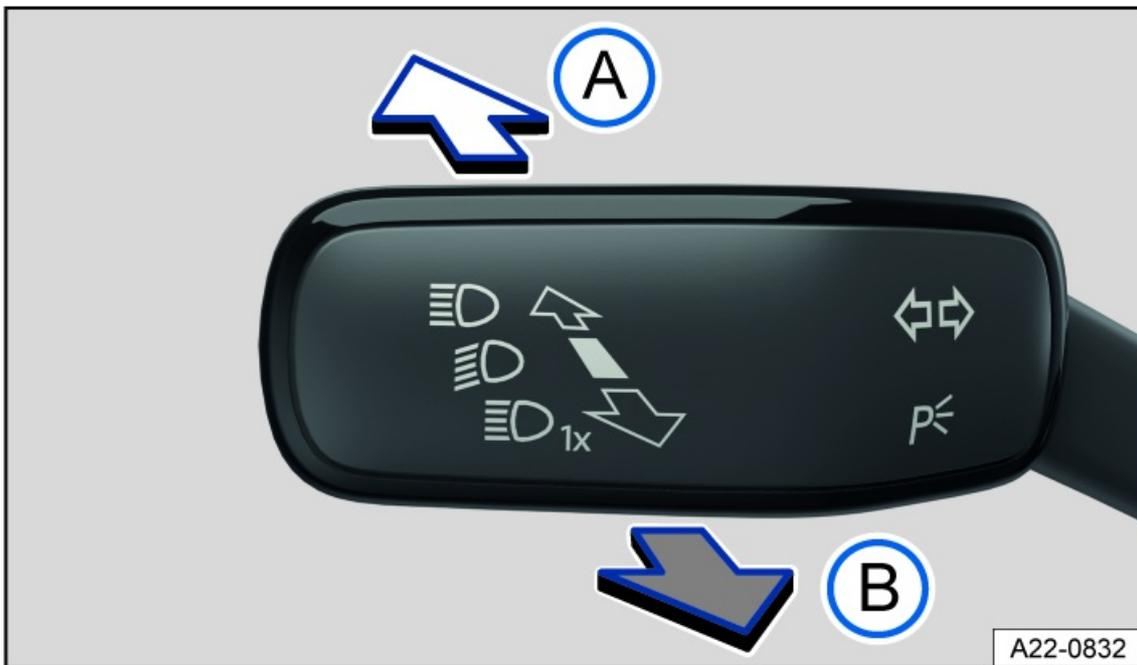

Fig. 78 On the left side of the steering column: turn signal and high beam lever.
3. Press the turn signal and high beam lever forward out of the center position *fig. 78*.
1. Pull the turn signal and high beam lever backward out of the center position *fig. 78*.
1. Pull the turn signal and high beam lever backward out of the center position and hold it *fig. 78*.